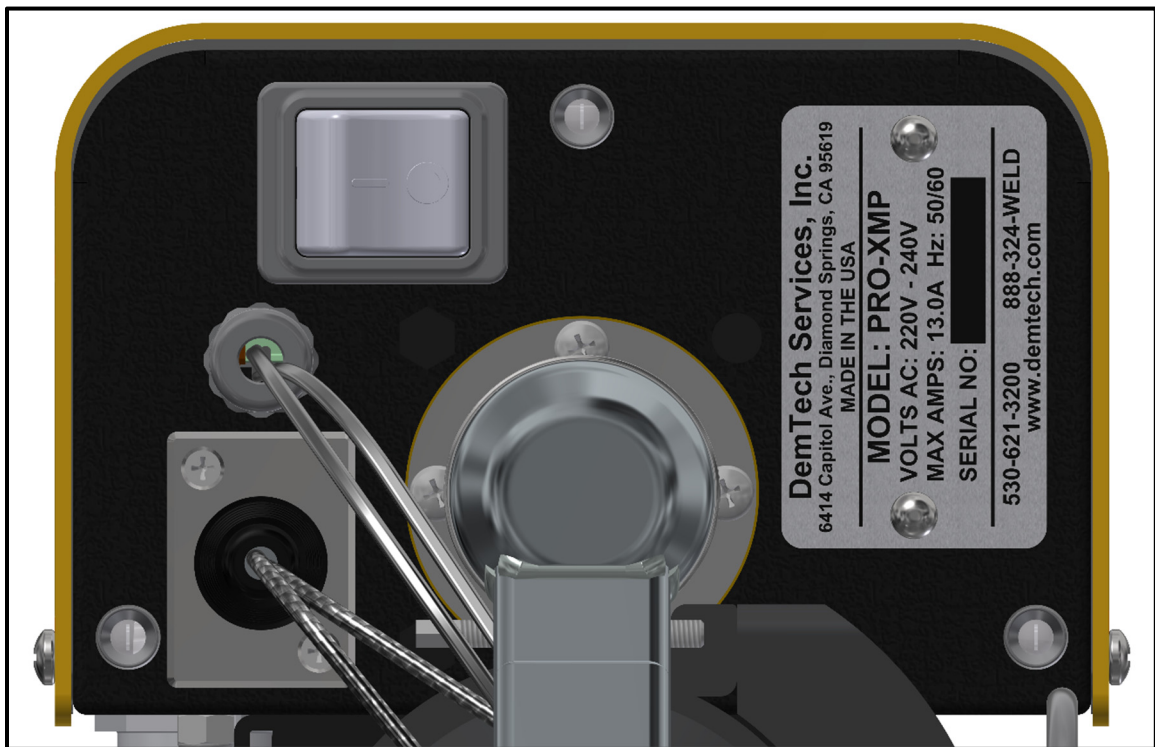

Figure 6.1
- a. The Pro-XMP is supplied with a power cord, which is permanently connected to the bottom side of the controller housing. Depending on the intended country of use, the plug at the other end of the power cord will vary but, in all cases, must be rated for the voltage and current requirements of the welder. It is highly recommended to use a twist-lock or twist-to-connect type plug with a permanent ground connection. Refer to the welder serial plate affixed to the front of the controller housing for the voltage and current requirements of the welder. Install the power cord plug into an appropriate electrical outlet supplying the proper ~(AC) power. In all cases the connection should only be made to a circuit with a maximum 20A breaker rating.
- b. Verify basic operation of the Pro-XMP before proceeding with the remainder of the installation. The welder main power rocker switch is white and is located on the front of the controller housing (see Figure 6.1). Toggle the switch to "I" to turn ON the welder. Toggle the switch to "O" to turn OFF the welder.